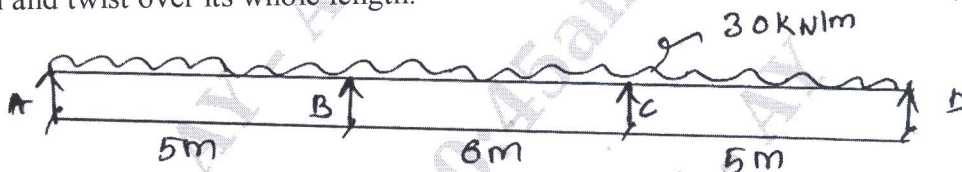

Fig. Q5 (c)
c. The three span continuous beam shown in Fig. Q5 (c) is subjected to a total design load of 30 kN/m. Over its whole length, check whether an ISMB 225 in Fe 410 steel would be a suitable section. It may be assumed that the beam is adequately braced against lateral deflection and twist over its whole length. (06 Marks)